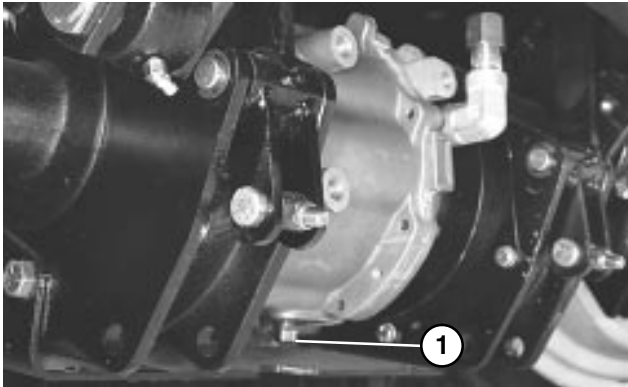

Figure 53
CHANGING FRONT AXLE LUBRICANT (Fig. 53)
2. Clean area around the drain plug (Fig. 53).